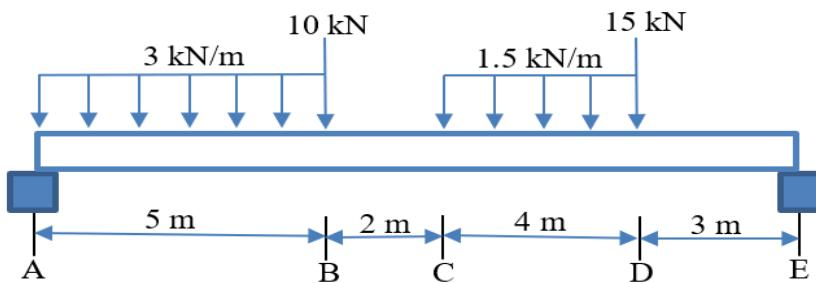

Figure 2 / Rajah 2
A beam with 14 m length is a simply supported and fixed at both ends. The loads are applied as shown in Figure 2 below.
- CLO1 a) Referring to Figure 2, with the aid of free body diagram for the beam, express the value of reaction force.